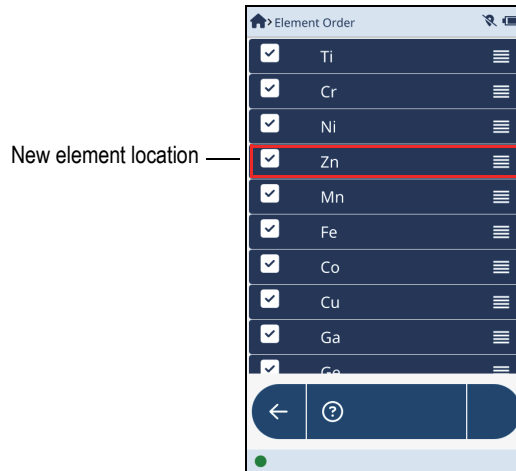

Figure 2-45 Element relocated
3. Drag the element up or down to a different position and release (see Figure 2-45 on page 59)